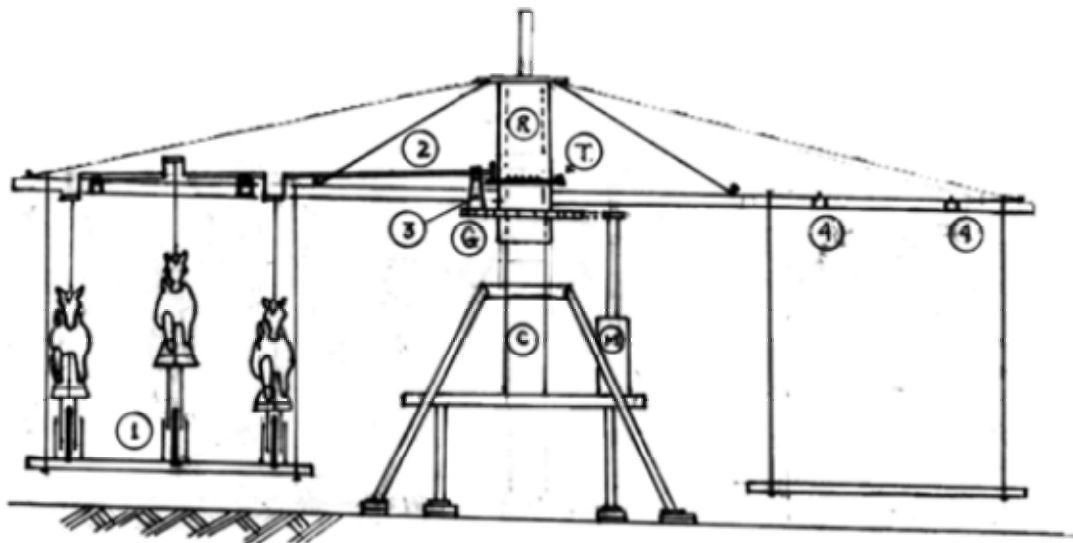

Figure 2
1. One of the Cam-Shafts that cause the horses to go up and down broke out of its seat right next to the gear at its end (see Figure 1A, B, C & D and Figure 2). The core the connects the shaft's seat to the pedestal # "3", which is bolted to the driving gear "G" (see Figure 2), is made out of cast iron. The manufacturer (Bob Boyle of Chance) stated the cast iron connection ensures that, if stressed, the cam-shaft would be broken at that point where it could result in the least damage. Creating a point of stress release is a valid design approach because it safeguards against failure at a random point, which could result in worse conditions than when the failure is controlled (at a known point). The snapped cast iron section can be clearly seen at the bottom of the shaft's seat in picture Figure 1-B. Picture Figure 1-C shows a close up on the snapped section.
2. Once the cam-shaft broke loose, the horses were freed from the circular motion and proceeded to travel on a tangential path, causing the cam-shaft to slide away from the center of the ride. The cam-shaft was stopped from further sliding when the inner cam hit the inner spreader beam (see Figures 2 & 3).
7. Figure 2. Item 1 is the telescope pipe assembly. Item 2 is the camshaft. Item 3 is the camshaft seat. Item 4 is the spreader beam sitting on the sweep. "C" is the stationary central shaft. "R" is the rotating top shaft. "G" is the main driving gear. "M" is the motor, and "T" is the camshaft gear tray.